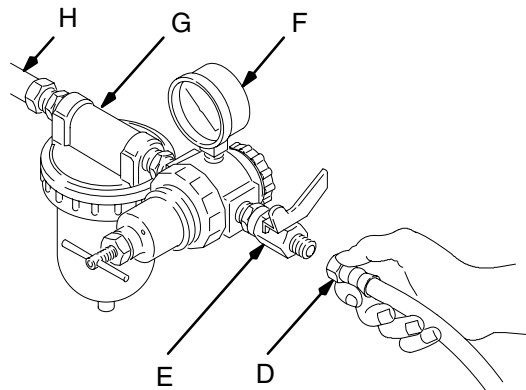
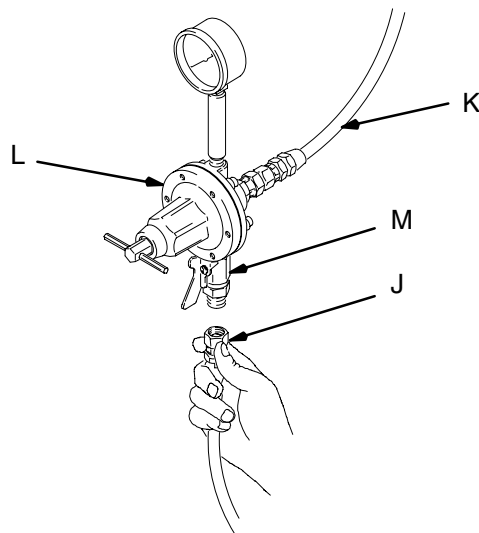
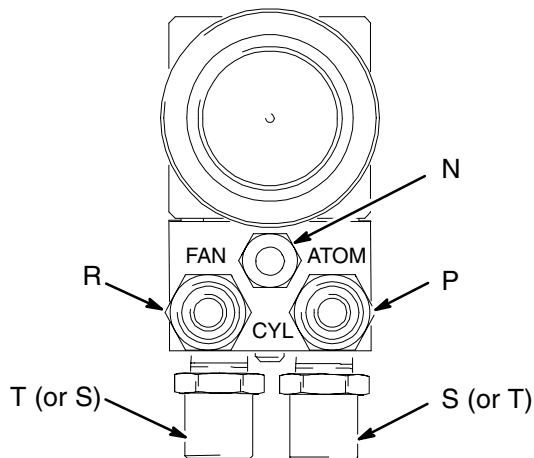

Fig. 4 _____ 01990
Fig. 5 _____ 7016A
Fig. 6
- You must install an air pressure regulator (F) on each gun air line to control air pressure to the gun. See Fig. 4.
- If your regulated air source does not have a filter, install an air filter (G) on each air line to ensure a dry, clean air supply to the gun. Dirt and moisture can ruin the appearance of your finished workpiece. See Fig. 4.
- Install an air shutoff valve (E) on each gun air supply line, downstream of the gun air regulator, to shut off air to the gun.
- Use 5/16 inch (7.9 mm) I.D. air hoses (D) to minimize excessive pressure drop in the hoses. See the **Pressure Drop Chart** on page 11 for the expected pressure drops through a 25 ft. (7.625 m) hose.
- A. For manifolds 241696 and 241697, the gun cylinder, fan, and atomization air must be supplied and regulated separately. Connect an air supply line to the fan air inlet (R) if desired. See Fig. 6. For manifold 243950, only one supply line is required for both atomization and fan air.
- Install a fluid regulator (L) on the fluid line to control fluid pressure to the gun. See Fig. 5.
- Install a fluid shutoff valve (M) to shut off the fluid supply to the gun.
- A. Connect the fluid supply hose (J) to the gun fluid inlet (S) 3/8–18.6 npsm [R 3/8–19] compound thread. See Fig. 6.
- B. Connect the other end of the fluid supply hose (J) to a regulated fluid supply line (K).
- C. In a circulating system, connect a grounded fluid return hose to the gun fluid outlet (T).